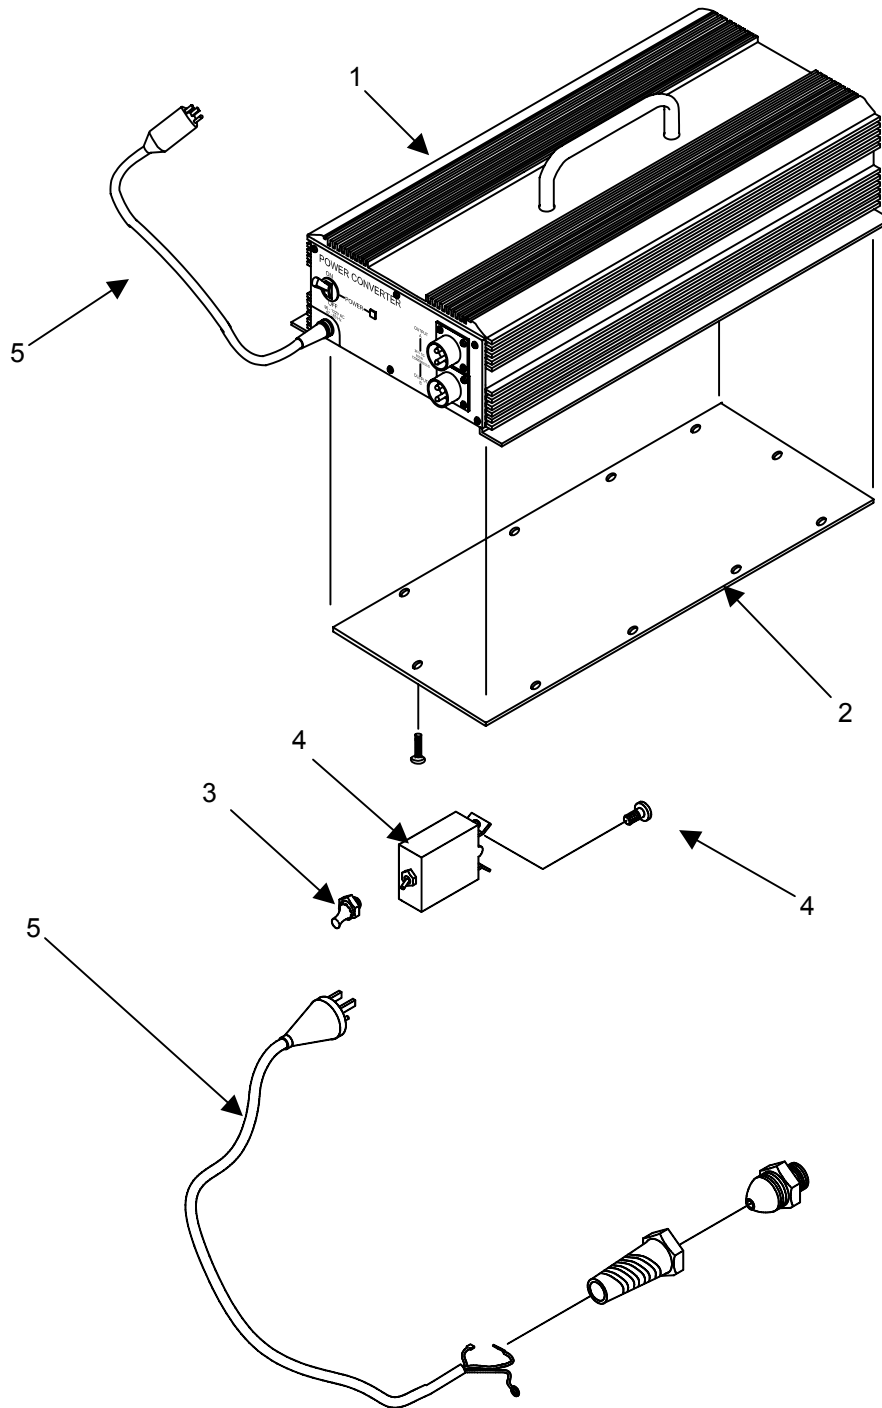

Figure 3. Test the Power Converter (MS0160)
1. Connect the power converter (**figure 3, item 1**) to an approved power source.
2. Use a multimeter to verify that the output voltage of the Power Converter (**figure 3, item 1**) is 23 - 29VDC. If the output voltage is correct, no further testing is required.
3. Disconnect the power converter (**figure 3, item 1**) from the power source.
4. Remove the screws and lockwashers retaining the bottom cover of the power converter (**figure 3, item 1**), and then remove the bottom cover (**figure 3, item 2**).
5. Loosen and remove the hex nut (**figure 3, item 3**) with protective rubber cap of the main power switch (**figure 3, item 4**).
6. Reach inside the power converter case and withdraw the main power switch (**figure 3, item 4**) from the case as far as the wiring will allow.
7. Make note of the location, color, and connection point of the two wires connected to the main power switch (**figure 3, item 4**) inside the power converter to ensure that the wires are reconnected properly when the switch is replaced. Tag the wires as necessary.
8. Loosen and remove the screws securing the wires to the terminals on the main power switch (**figure 3, item 4**). Set the wires aside.
9. Test for continuity through the power switch (**figure 3, item 4**) with a multimeter. If the power switch is not found to be defective, check for continuity through the power cord (**figure 3, item 5**). If both are not found to be defective, the entire power converter should be replaced.
10. To install the main power switch (**figure 3, item 4**), connect the wiring to the switch as tagged and secure with screws.
11. Place the switch (**figure 3, item 4**) in position in the power converter's front panel. Be sure to position the switch so that the screw terminal labeled LOAD is facing up and out of the case while the terminal labeled LINE is facing down into the power converter case.
12. Install the hex nut (**figure 3, item 3**) with protective rubber cap on the front of the power switch (**figure 3, item 4**).
13. Install the bottom cover (**figure 3, item 2**) of the power converter (**figure 3, item 1**) and secure with screws and lockwashers.